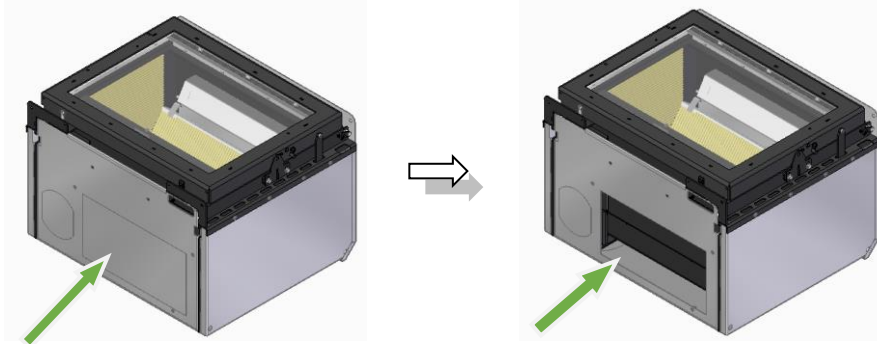

Figure 52 – Removal of the bottom micro-joints
a. On these models of equipment, the ventilation kit is placed underneath the equipment. To attach the optional ventilation kit, you must first break the micro-joints on the bottom with a hammer, in order to attach the fan and the ventilation kit accessories, see Figure 52.